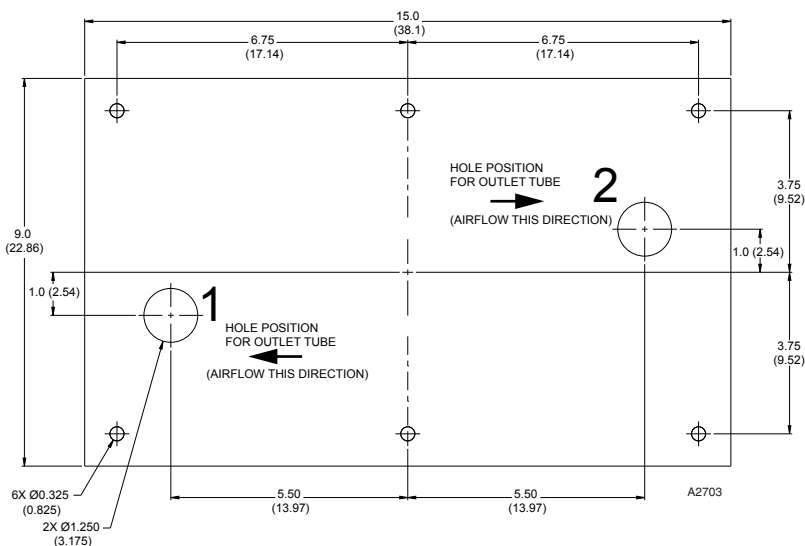

Figure 5—Q5017R Template dimensions in Inches (Centimeters)
3. Lay the fastening pattern template (Figure 5) onto the duct in a position to monitor the duct in a horizontal or vertical orientation. Ensure that there will be enough room to open the cover of the Q5017R.